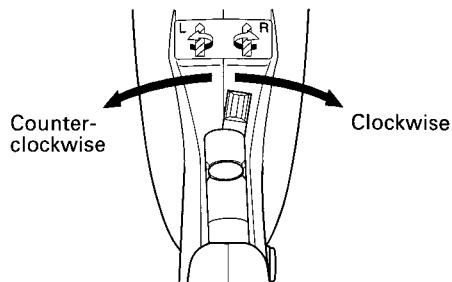

Fig. 6
10. Confirm the direction of bit rotation (Fig. 6)